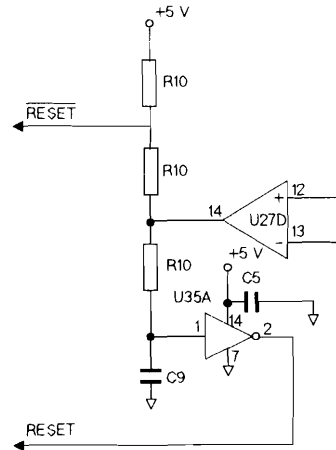

Figure B-17. 08116-66513: Reset circuit
8. Figure B-17 shows the microprocessor reset circuit on microprocessor board 66513, modify the schematic Figure 10.7-5 accordingly.